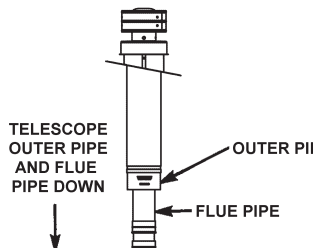

FIGURE 14.
3. Telescope down the outer pipe of the roof jack assembly to a length that will project at least 2" (5 cm) below the finished ceiling before installing the roof jack assembly. See Figure 14.